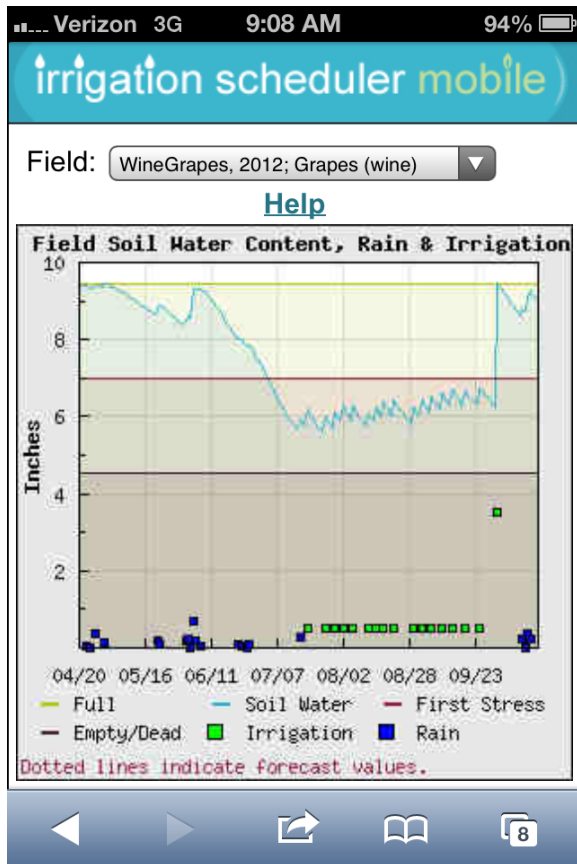

Figure 24. Water stressing wine grapes. Irrigation after harvest was done to restore the health of the vines.
**Deliberate Water Stress:** With some crops, such as wine grapes, it is desirable to deliberately cause water stress to get the desired crop quality results. Recall that the plant will see approximately linearly increasing water stress from barely any at the red, First Stress (MAD) line to the black, Empty/Dead (Permanent Wilting Point) line (see Figure 8). Deliberately causing stress is done by purposefully allowing the soil water to dry down below the First Stress line (Figure 24).